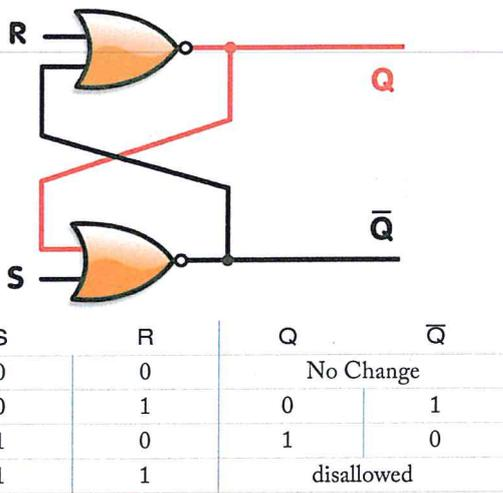

Figure 1-105. RS Flip-flop using Cross-Coupled NOR gates and its truth table.
Flip-flops are bi-stable multi-vibrator circuits that form basic storage units of sequential logic used in shift registers and counters. They have the ability to maintain their state without further application of a signal allowing them to store a bit of data or one place of a larger binary number. Their ability to set one condition and reset or change to an alternate condition results in a latch, also known as a flip-flop. Either cross-coupled NAND gates or cross-coupled NOR gates (*Figure 1-105*) are used to form Reset-Set (RS) flip-flop circuits. Each gate has two inputs and two outputs. The outputs Q and  $\bar{Q}$  (not Q) are always in opposite states, so if Q is set to logic 1 then  $\bar{Q}$  is reset to logic 0, and vice versa.